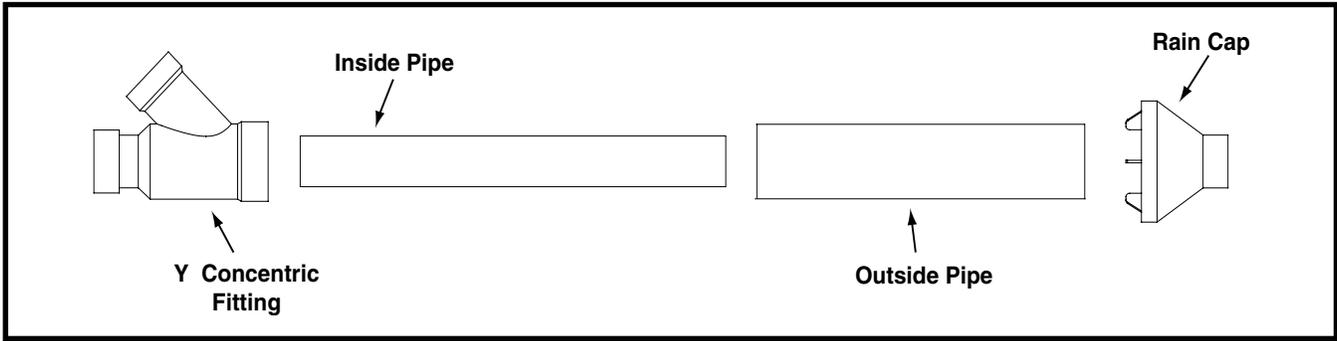

Figure 1. Kit Components
The Concentric Vent Termination Kit is shipped assembled but not cemented. Disassemble the kit and cement as shown in Figures 1 and 2.
- Partially assemble the concentric vent termination kit as shown in Figures 1 and 2.
- Cement Y concentric vent fitting to larger diameter kit pipe. See Figure 1.
- Cement rain cap to smaller diameter kit pipe. See Figure 1.
3. Partially assemble the concentric vent termination kit as shown in Figures 1 and 2.